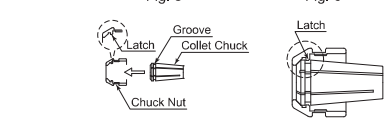

Fig. 7
- To install the collet chuck, hold the collet chuck at a slight angle, and insert it into the chuck nut (Fig. 7).